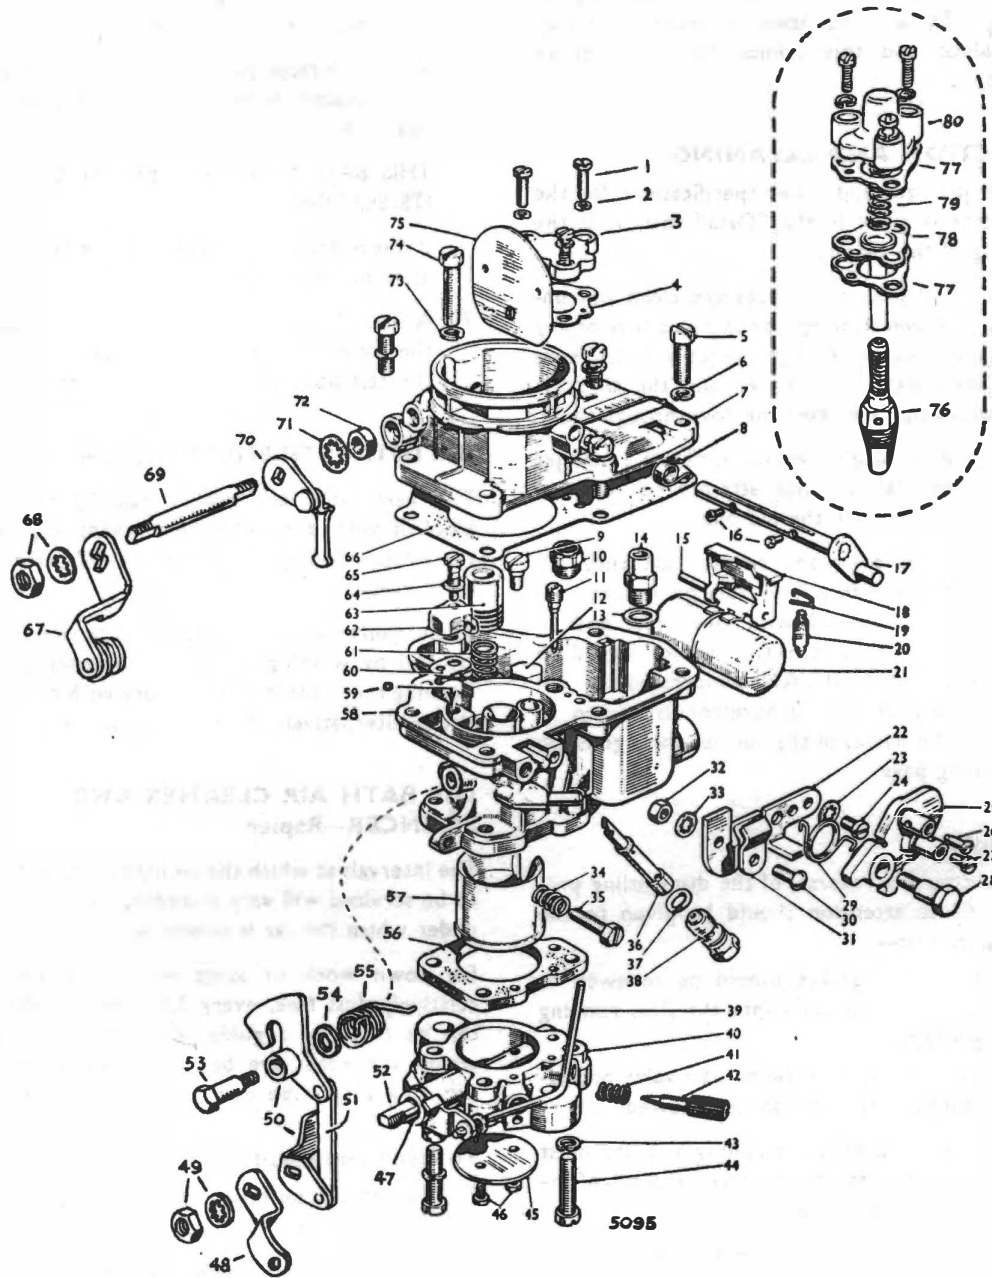

Fig. 18. Exploded view of carburettor.
Inspect all valve seats and ensure that they are perfectly clean and free from foreign matter. All parts should be washed with clean fuel and all passage-ways in the carburettor bodies should be blown through with **CLEAN** compressed air. An exploded view of the carburettor is shown in Fig. 18 and the names of the various parts given on the adjoining page.
**CARBURETTOR PARTS—See Fig. 18.**